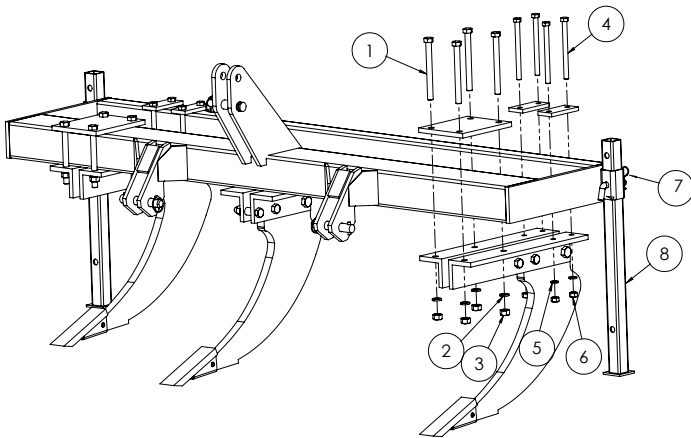

Figure 4. 3S Shank Assembly
5. Attach the shank preassemblies onto the frame, as shown in Figure 4 using four per shank front 3/4" x 8" GR. 5 bolts supplied (Ref. 1), four per shank 3/4" lock washers (Ref. 2) and four per shank 3/4" hex nuts (Ref. 3), and four per shank rear 5/8" x 7" GR. 5 bolts supplied (Ref. 4), four per shank 5/8" lock washers (Ref. 5) and four per shank 5/8" hex nuts (Ref. 6).